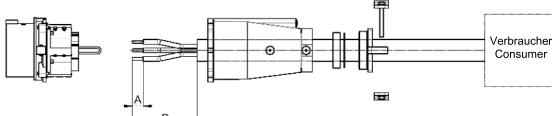
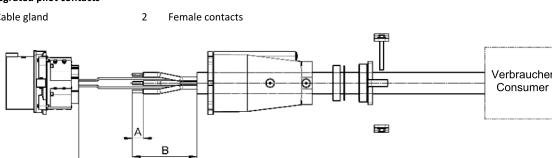
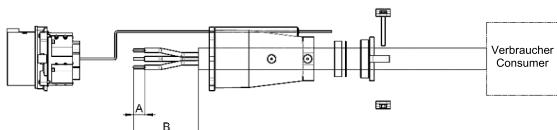

Fig.6: Schematic for cables without pilot contacts
Fig.7: Schematic for cables with integrated pilot contacts
Fig.8: Schematic for cables with separate pilot contacts
- Proceed as specified in Fig.6 if no pilot contacts are present. Control pilot loop (Fig.6/2).
- Proceed as specified in Fig.7 if pilot contacts have been integrated.
- Proceed as specified in Fig.8 if the pilot contacts are separate.
- 1 Pull the cable gland (Fig.6/1, Fig.7/1, Fig.8/1) over the cable. Strip off the exterior insulation along length B (Fig.6, Fig.7, Fig.8).
- 2 Strip the insulation off each individual line along length A (Fig.6, Fig.7, Fig.8).
3. Length C (Fig.7) represents the length of the integrated pilot contact
5. Screw the female contact (Fig.6/2, Fig.7/2, Fig.8/2) to the cable.